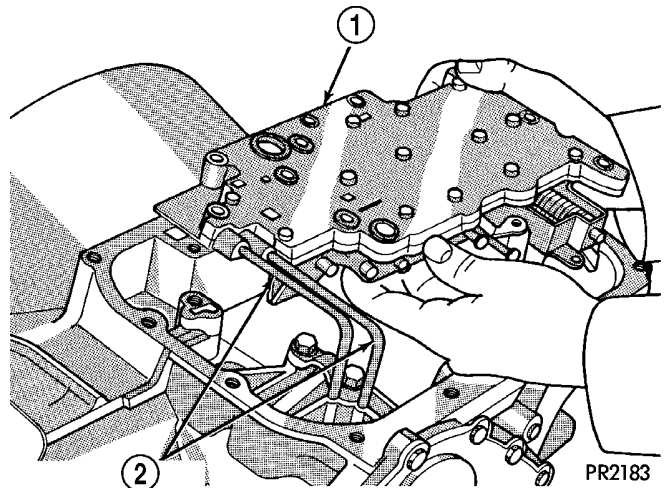

Fig. 75 Valve Body and Governor Tubes
(36) Install valve body assembly (Fig. 75). Make sure governor tubes are properly engaged to the transaxle case and valve body.